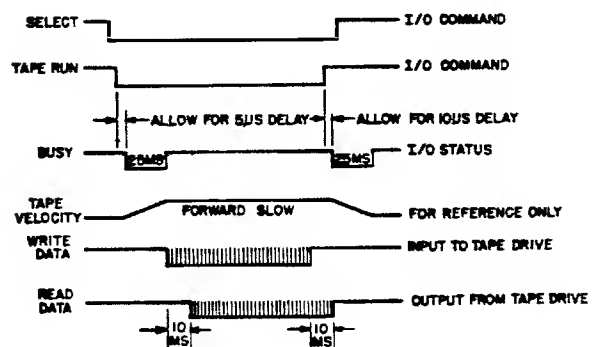

Figure 3-3. Write/Read Operation, Timing Diagram
3.7.2 Write (Fig. 3-3)
3.7.3 Read (Fig. 3-3)